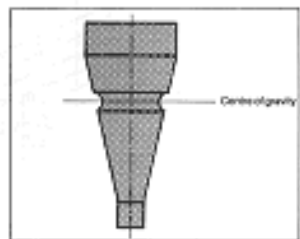

Figure 51: Reduction of the resonant frequency of a conical sonotrode by a groove at the centre of gravity.
- Conical shape (Figure 51), exponential form, cylinder - making a groove at the centre of gravity.